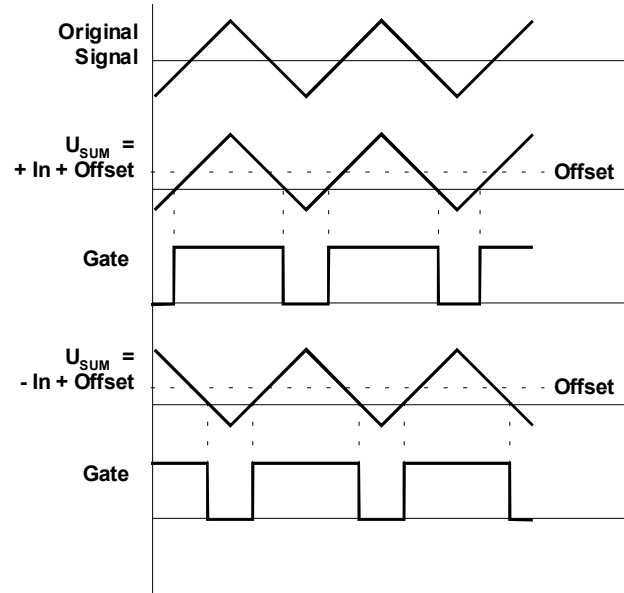

Fig. 2: A-167 as attenuator / offset generator
If only one of the inputs is used the module works as an **offset generator** (and attenuator); the attenuated and - if input ❷ is used - inverted voltage with offset is available at the Analog Sum socket ❸ (see fig. 2 and chapter 6).
④ Gap